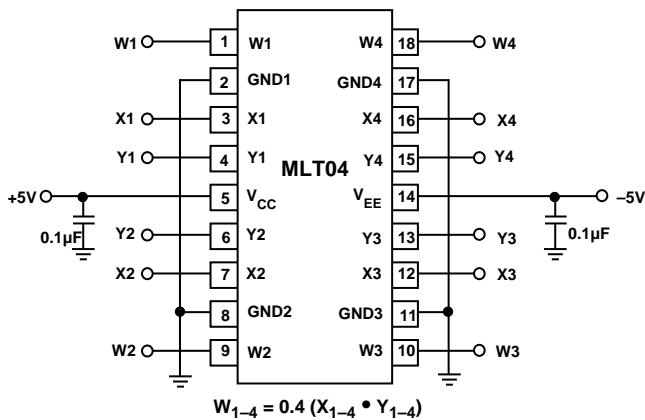

Figure 43. Basic Multiplier Connections
Figure 43 illustrates the basic connections for multiplication. Each of the four independent multipliers has single-ended voltage inputs (X, Y) and a low impedance voltage output (W). Also, each multiplier has its own dedicated ground connection (GND) which is connected to the circuit's analog common. For best performance, circuit layout should be compact with short component leads and well-bypassed supply voltage feeds. In applications where fewer than four multipliers are used, all unused analog inputs must be returned to the analog common.